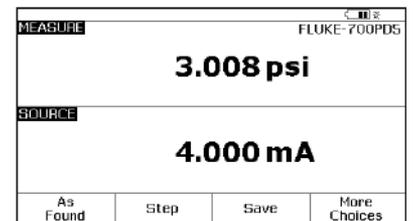

Figure 15.
5. Next depress the "MEAS/SOURCE" button once and you should be in the split screen mode (Figure 15).